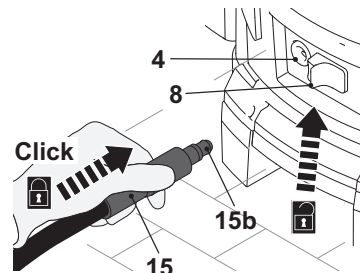

Fig. 6
- > Insert the other connector (15b) of the pressure hose (15) into the water outlet (4). Ensure it snaps in place (Fig. 6). Press the release button (8) to unlock if necessary.